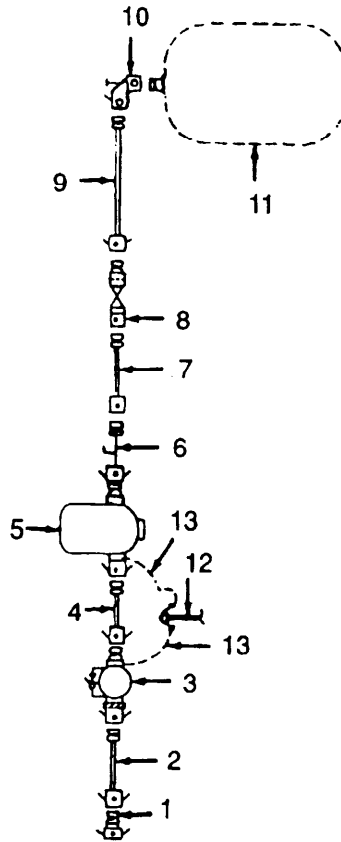

Figure 2-5. Piping Diagram for Filling Operation.
**d. Installation for Filling a 500 Gallon Drum (1892.5 Liters).** (Refer to Figure 2-5)
- (1) Position pumping assembly (3) in its desired location.
- (2) Position filter separator (5) in its desired location.